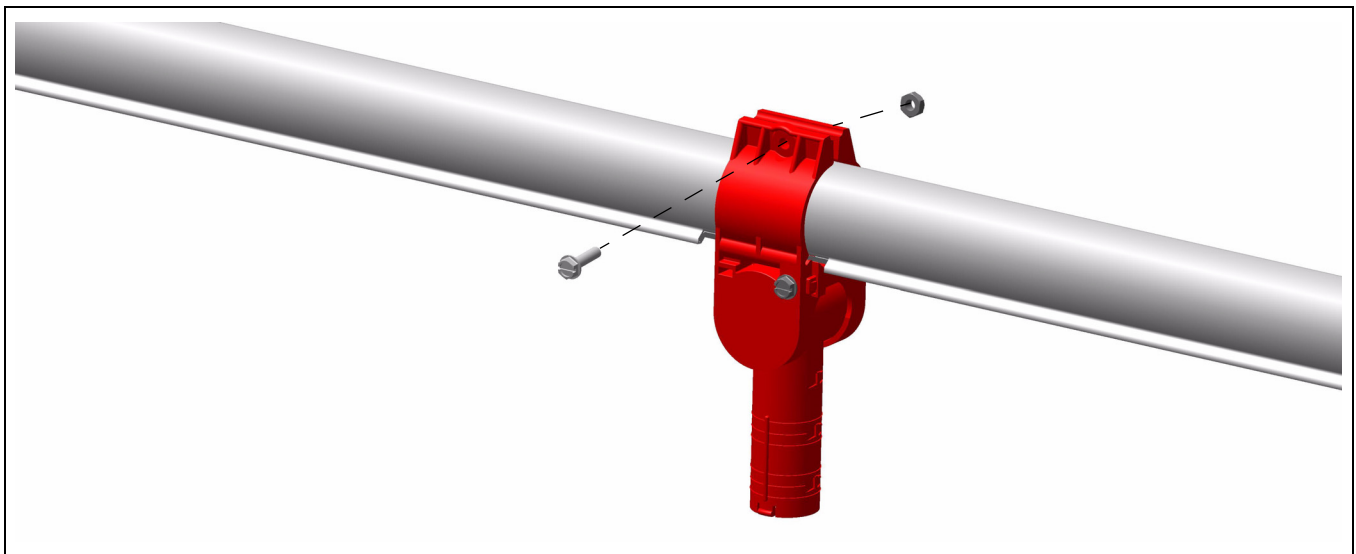

Figure 2
2. Install the supplied #10-24 x 3/4" screw and nylock nut into the top of the chick booster and tighten as shown in Figure 2. Ensure that the pre-installed #10-24 x 2-1/4" screw and nylock nut is tightened and the drop tube rotates freely.